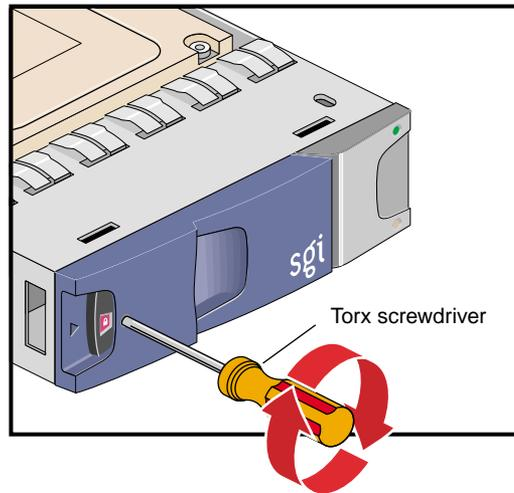

Figure 14-19 Locking Drive Carrier Module
- When you finish installing the drive carrier module(s), lock the drive carrier module(s) in the chassis by inserting the Torx screwdriver in the drive module and turning it 90 degrees clockwise. The indicator in the drive carrier module turns red when the drive is locked. See Figure 14-19.